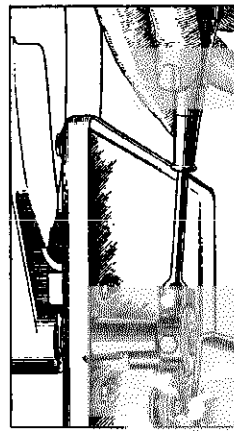

Figure 9—Magazine on turntable
- (b) Improper setting of magazine. The horizontal swing of the magazine should be so adjusted when the mechanism is out of cycle that the outer surface at its nearest point to the nearest side of the turntable spindle is $5 \frac{1}{16}$ ". This can be done by loosening the two screws as shown in Figure 9, moving the magazine to its correct position and retightening the screws.